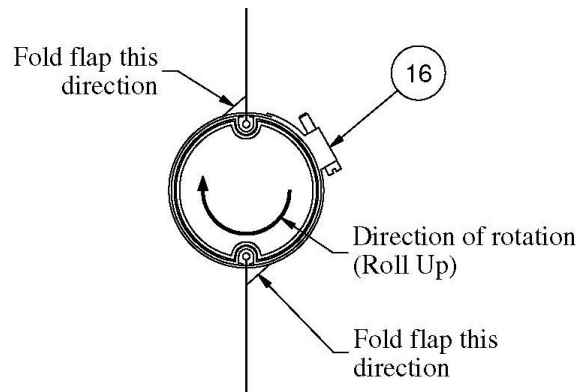

Figure 2
Important: Before tightening the band clamp (item 16), make sure the edge of the vinyl panel is in line with the edge of the mesh panel. Make sure the vinyl strips of the mesh panel and the vinyl panel are folded onto the drive tube in the opposite direction of rotation before tightening the clamp. See Figure 2 (Next page). The curtain will not roll correctly if these strips are not folded in line with the rotation of the curtain.